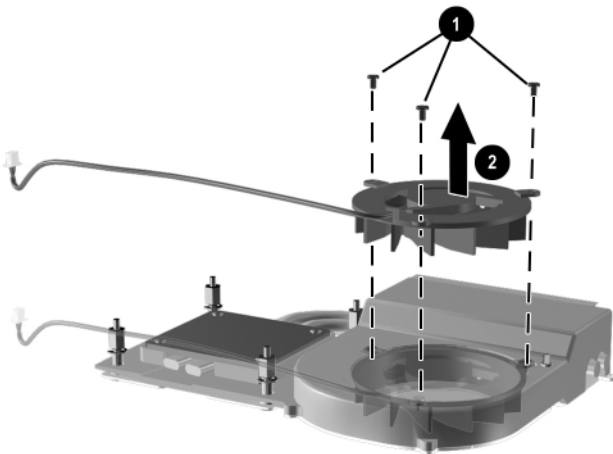

Figure 5-18. Removing the Fan
6. Remove the three PM2.0 × 4.5 screws ❶ that secure the fan to the heat sink (Figure 5-18).
7. Remove the fan from the heat sink ❷.